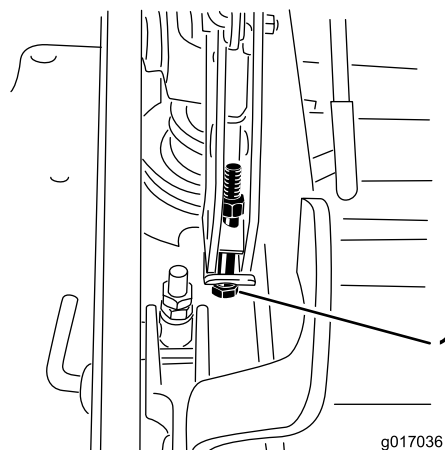

Figure 93
13. If the deck is too low, tighten the single point adjustment bolt by rotating it clockwise. If the deck is too high, loosen the single point adjustment bolt by rotating it counterclockwise (Figure 93).